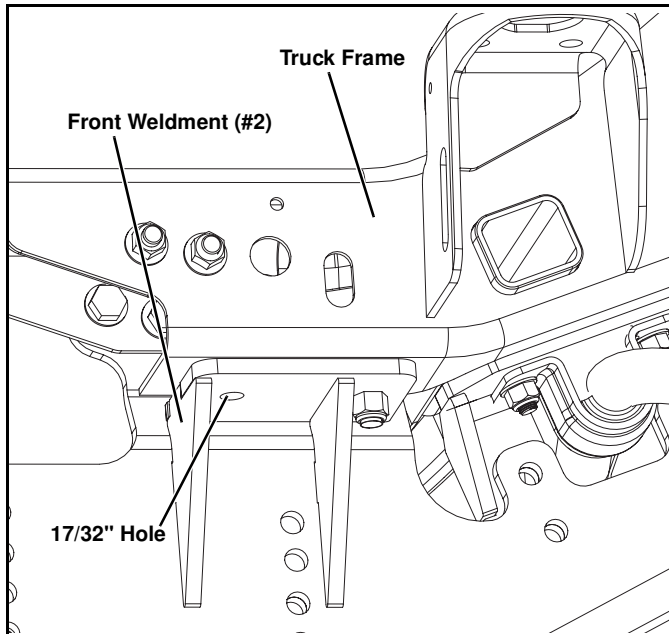
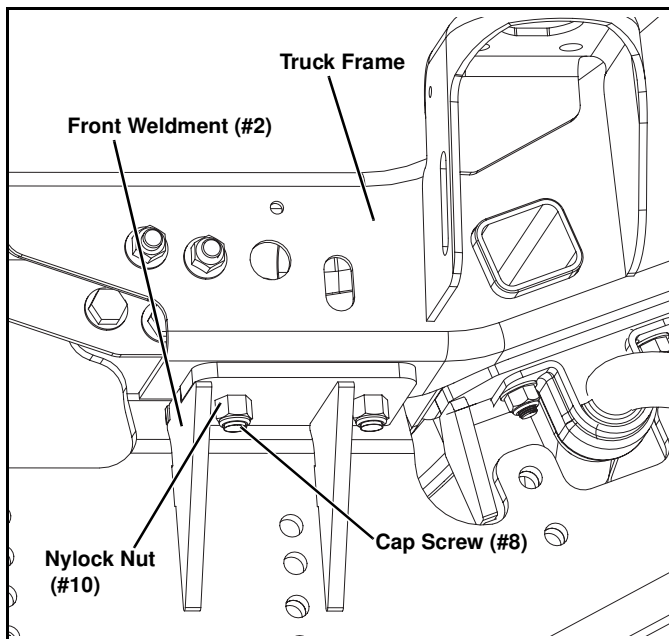

Figure 7
Figure 8
11. Clamp the Front Weldment, DS (#2) tight against the side and bottom of the truck frame. Use the hole in item #2 that is against the bottom of the truck frame, near the front, as a template. Center punch and drill a 1/4" pilot hole, then drill to 17/32" (See Figure 7). In that hole, loosely secure a 1/2"-13 x 1-1/2" Cap Screw (#8) with (1) 1/2" Flat Washer (#9), and (1) 1/2"-13 Nylock Nut (#10). (See Figure 8).